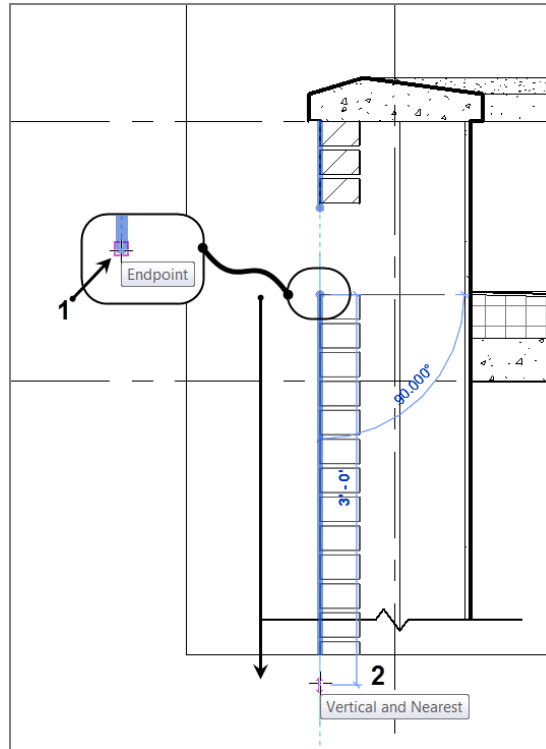

FIGURE 12.11: Picking two points
2. Pick point 1, as shown in Figure 12.11.
4. Pull the cursor straight down, and pick point 2 (see Figure 12.11). Make sure you pick the second point well past the break line, or the brick will stop short.